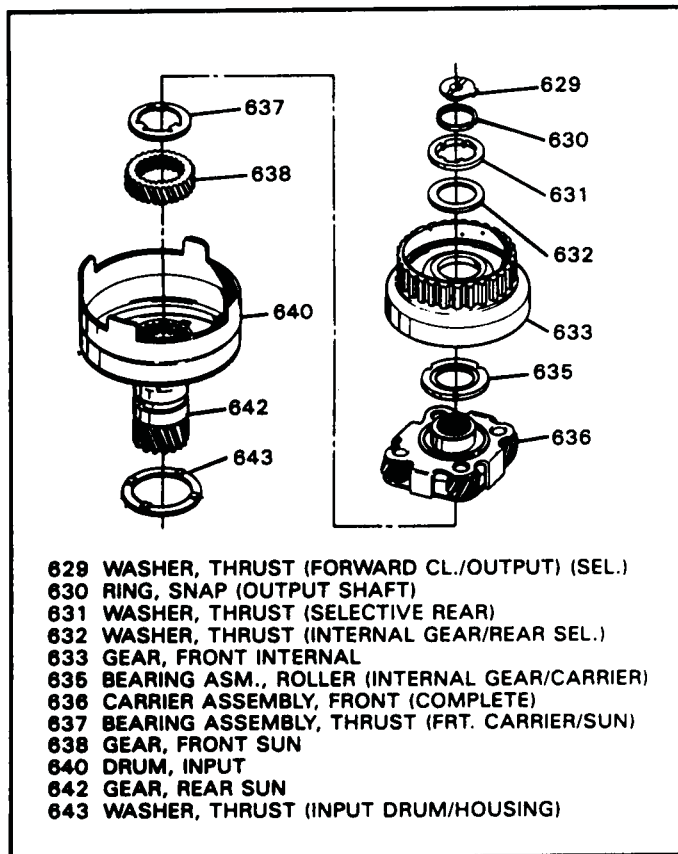

Figure 57
2. Remove the thrust washer and selective thrust washer (See Figure 57).
3. Remove the front internal ring gear and hub assembly (See Figure 57).
4. Remove the front planetary carrier and thrust bearing as shown in Figure 57.
5. Remove the front sun gear and thrust bearing as shown in Figure 57. Thrust bearing has only one race.
6. Remove sun gear shell and rear sun gear shown in Figure 57.
7. Remove the tanged thrust washer (643), shown in Figure 57.